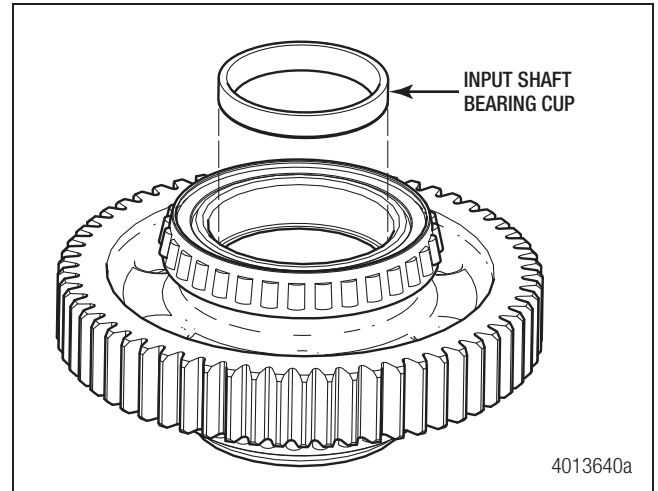

Figure 6.2
1. Remove the input shaft bearing cup from inside the drive gear assembly. Figure 6.2.